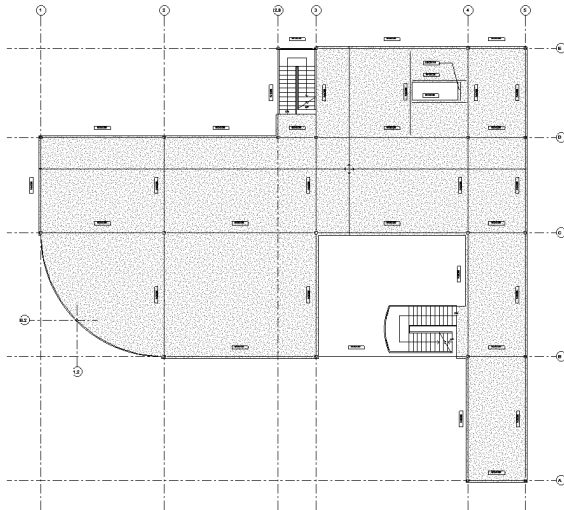

FIGURE 8-4.3 Level 2 span direction tag placed
16. **Click** anywhere within the middle of the floor (Figure 8-4.3).